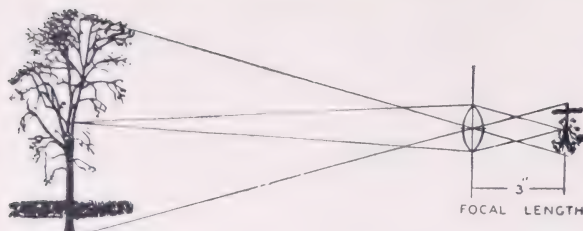

FIG. 39. HOW FOCAL LENGTH AFFECTS IMAGE SIZE—
The image would then be eight inches high. The principle involved is illustrated by *Figs. 39 and 40*.
A lens that sees more of an object plane than the normal from any given distance is called a *wide-angle*. The eye of a fish has such a lens; it is flatter in shape and sees more in all directions. The normal lens for a Contax or Leica negative is one with a focal length of 2 inches, or 50 mm. The angle of view of such a lens is only 45 degrees to 48 degrees. To increase this angle we can use a lens with a shorter focal length, one of about 1½ inches or 35 mm. The wide-angle Elmar, Orthometar and Biogon, are all of this focal length, and have an angle view of about 65 degrees. For extreme wide-angle work in this size, there is the f 8 Tessar with a focal length of only 28 mm. and an angle of view of almost 76 degrees. In the larger sizes, the 4 x 5-inch for example, we can get wide-angle lenses even more extreme. The Aristostigmat, for instance, used to increase the angle of view in this size, has a focal length of 4 inches and a view of 105 degrees. The important things to remember about wide-angle lenses are that (1) while they increase the object angle, they reduce the image size in direct proportion (see *Figs. 39 and 40*); (2) they increase the apparent depth of focus by reducing the size of the circles of confusion; and (3) the angle of view can be increased slightly by racking the lens back and stopping down to compensate. The Dagor is used in this way.